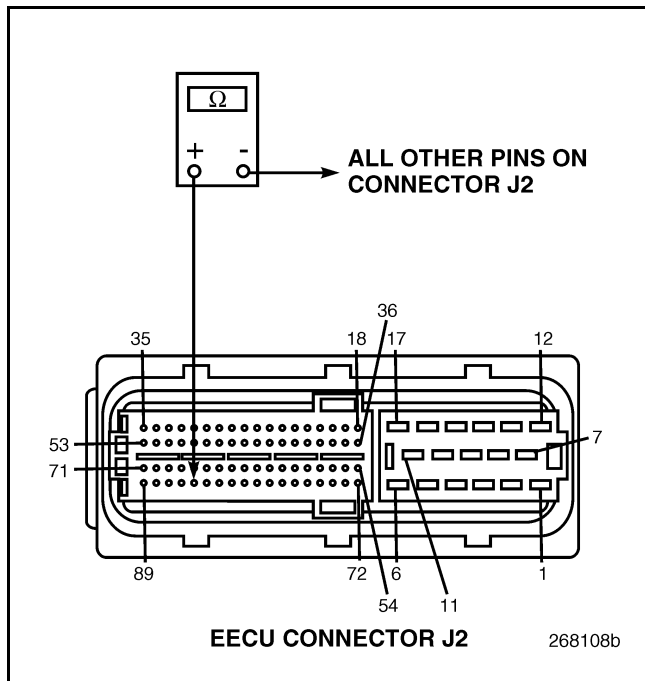

Figure 824
4. Check for continuity between EECU harness connector J2 pin 85 and all other pins on EECU connector J2 (see Figure 824).